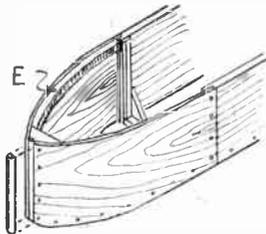

Fig. 3—Further details of the bow
Now saw away the surplus portions of stem, and upright strips of the frames, level all round with the sides and stem. It may be added here that all screws used should be of brass, and the nails copper. Plane the front edges of the plywood level with the edge of the stem post, to leave a 'flat'. The appearance of the forward ends of the boat will then be as shown in Fig. 3, which will help to make the details clear.
are to be bent round, and screwed to the plywood on the inside, to make the ply approximately level with the inside face of the sides of the boat. These extend between where the ply joins the sides to where it is screwed to the stem, as shown at (E) in Fig. 3. A strip of wood $\frac{3}{4}$ in. square and 12ins. long is to be screwed to the stem to cover the cut edges of the plywood. Its outer edges are planed to a curve. This also is shown in Fig. 3. Screw it temporarily, as it has to be removed when the covering is